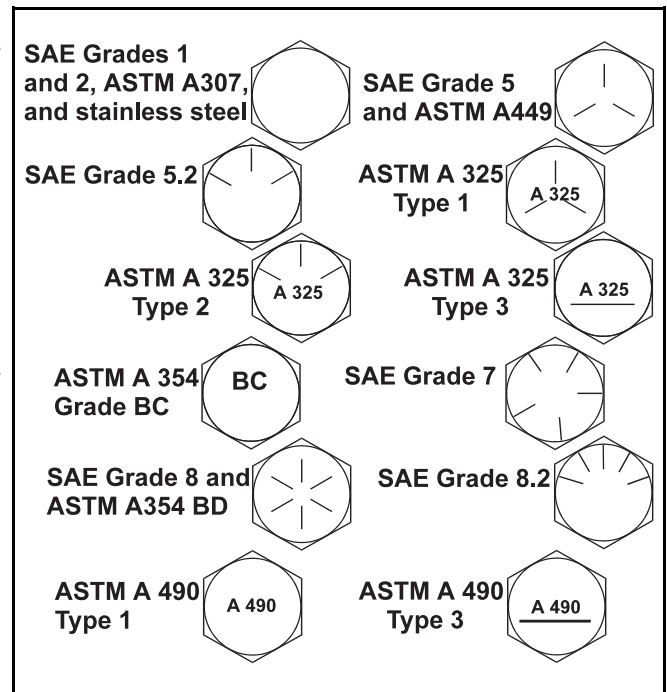

FIGURE 1 (MSSM0101CE)
5. Although FIGURE 1 depicts hex head bolts, the table applies to all head types.